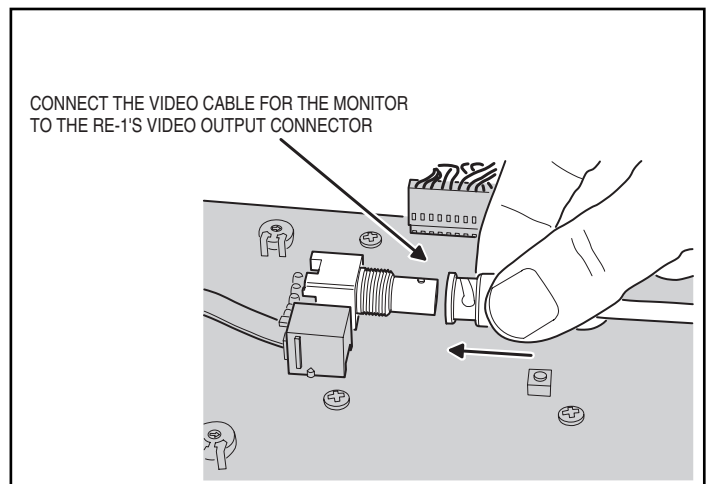

Figure 25. Connecting the Video Cable
6. Connect the video cable to the RE-1 **VIDEO** connector (see Figure 25).